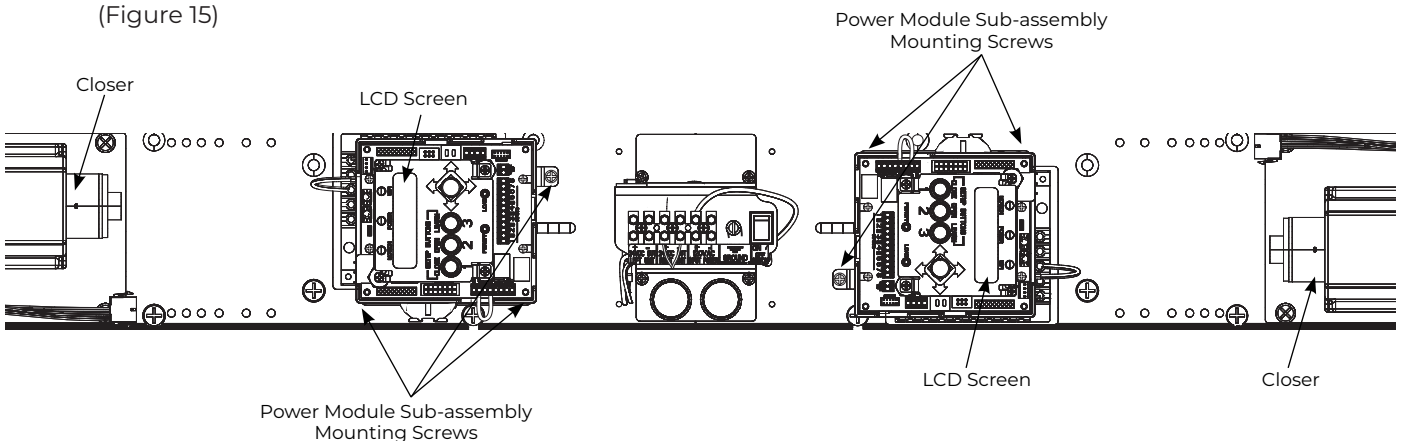

Figure 15 Wiring Removed From View
1. Using three (3) #8-32 x 5/16" Phillips screws per assembly, secure power module sub-assemblies to backplate at location marked on backplates. (Figure 15)
- NOTE:** Orient assemblies so LCD screens on inverters are toward corresponding closer assemblies. (Figure 15)